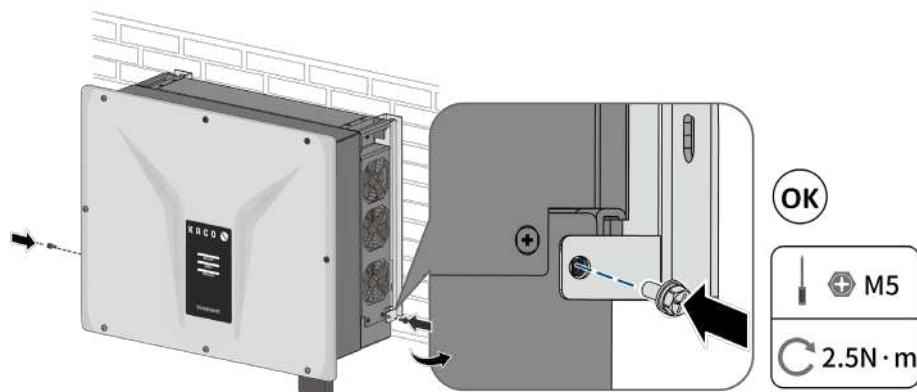

Fig. 12. Secure the inverter
3. Insert the screw provided into the lug of the mount and secure the device to prevent it from being lifted off (see Fig. 12). [ 2.5 Nm]